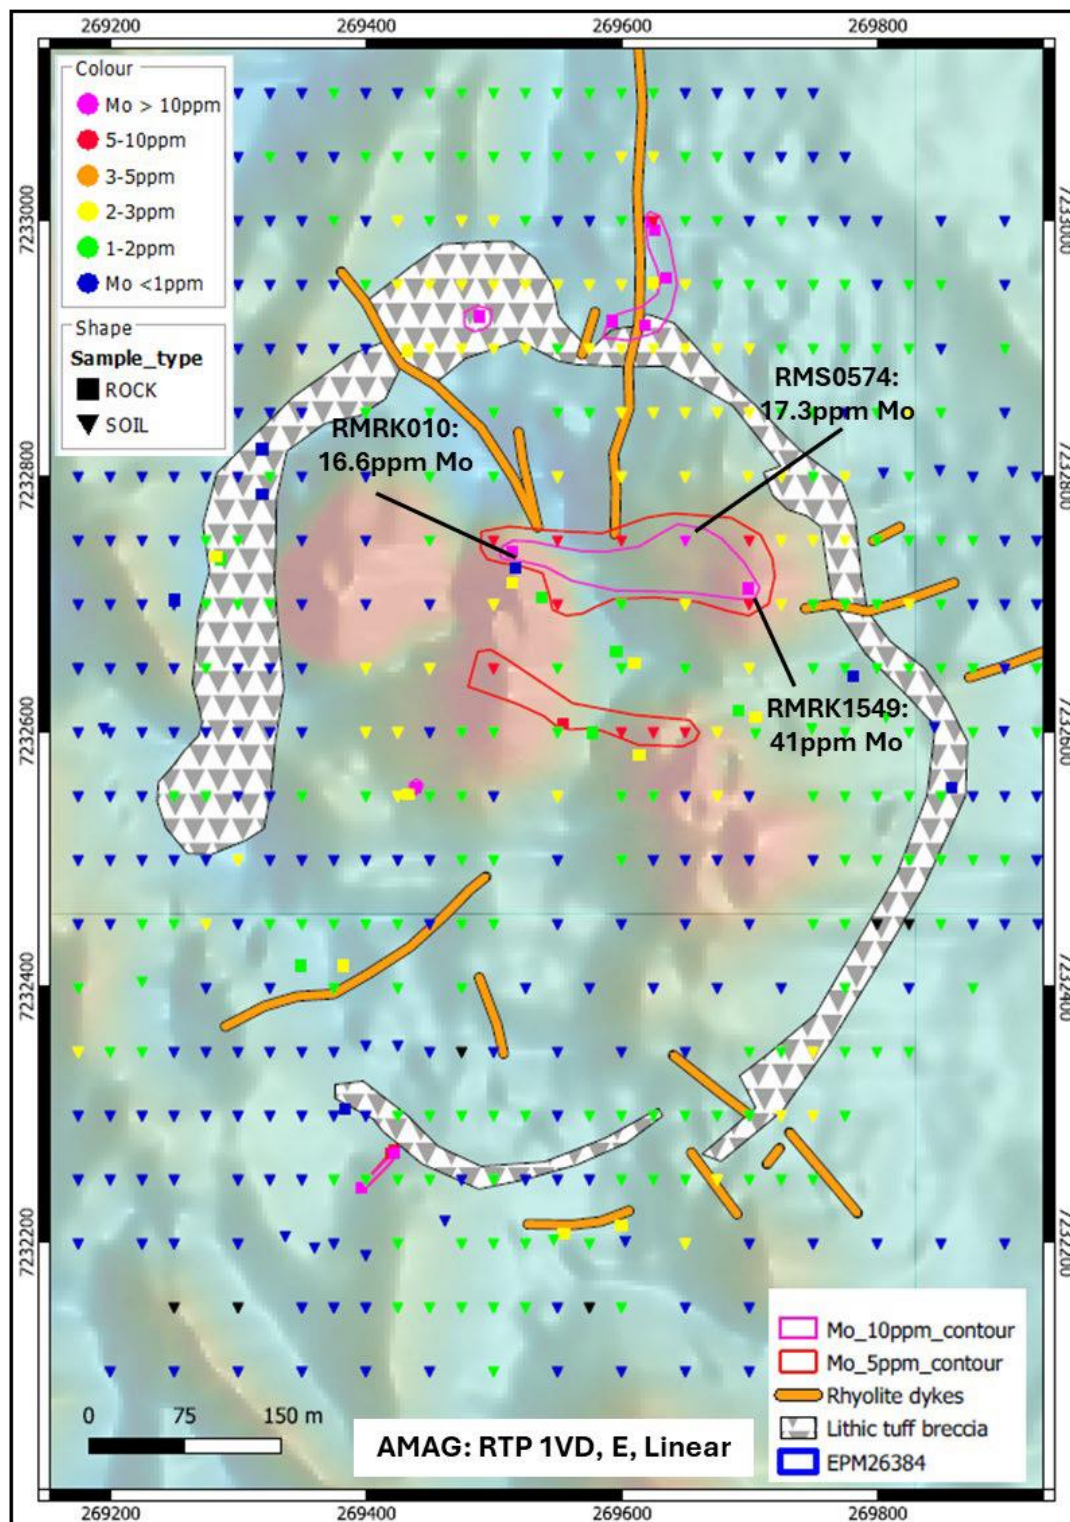

Figure 4: Spatial distribution of Mo anomalism from surface sampling soils and rock chip; contours for values >5ppm and 10>ppm⁵
- **Drilling Details:** A total of 1,809 metres drilled across 11 Reverse Circulation (RC) holes, with nearly all planned holes completed successfully. The program was curtailed due to adverse weather conditions.
- **IP Targets:** Drilling intersected widespread gold mineralisation associated with sulphides that are coincident with shallow Induced Polarisation (IP) geophysical anomalies in places, verifying geophysical modelling as a reliable tool for future targeting.
- A surface molybdenum anomaly in the core of the breccia pipe is indicative of proximity to the hotter part of the system. It will require a deep diamond hole to properly test magma-source prospectivity in the core of the breccia. (see Figure 4 and Table 1 in Appendix 2).
Most of the anomalous molybdenum samples are coincident with a strong magnetic-high response as determined by RTP 1VD AMAG data in the NE quadrant of the mapped breccia pipe (see Figure 4):
Table 1: From Figure 4, a subset of the surface sampling dataset of Au, Ag, Cu and related pathfinders, filtered for all values above 5ppm Mo